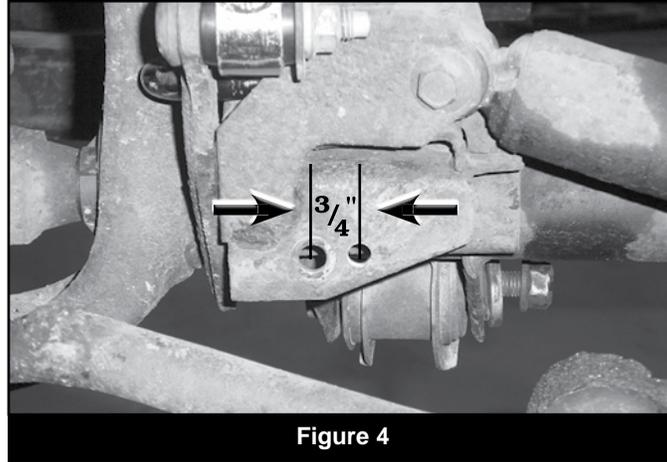

Figure 4
18. Locate the factory track bar mount on the passenger's side of the axle. Measure from the center of the original track bar mounting hole $3/4$ " toward the driver's side and mark. Drill a $13/32$ " (10.3mm) hole at the mark through the front and back faces of the track bar mount (Fig 4). This will be the new trackbar mount. Do not install the track bar at this time. Do not attach the track bar until the vehicle is on the ground.